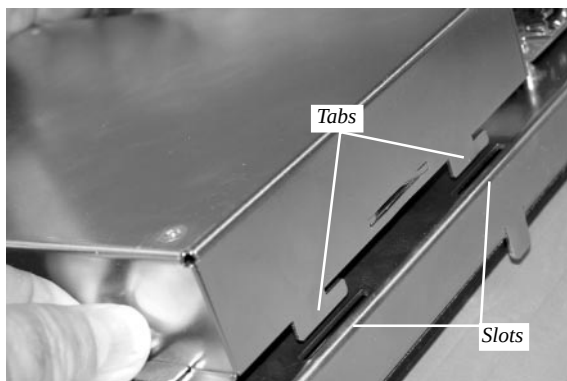

Figure 3-13. Align the tabs on the main board assembly with the slots on the mounting bracket.
1. Refer to Figure 3-13. Align the four tabs on the bottom of the main board assembly with the four slots on the display mounting plate. When aligned, lower the tab into the slots and push it until the large connector on the main board seats into the receptacle on the docking assembly. When the main board is seated properly the locking pin will snap into place.